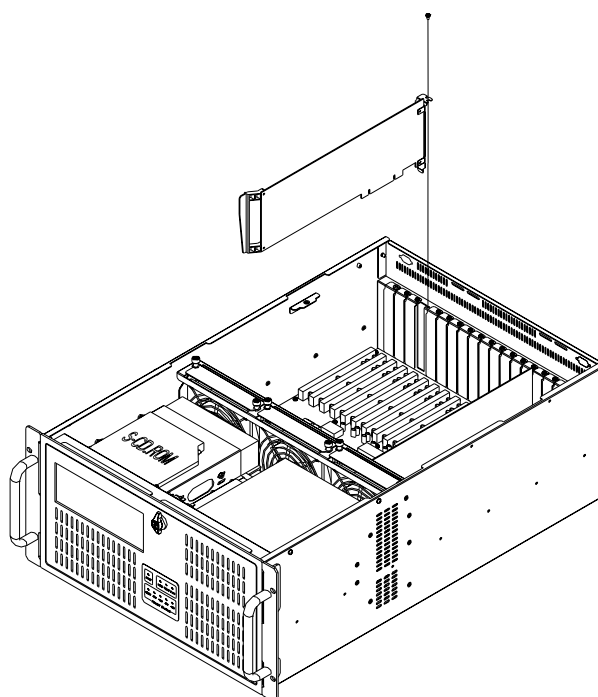

Figure 2.5: Installing a full-length card
2. Insert the CPU card (with CPU, CPU cooler, RAM, and necessary cables installed), or add-on card vertically into the proper slot (See Figure 2.5). For full-length cards, please make sure that the card bracket has been inserted properly and the other edge of the card has been inserted into the plastic guiding fillister. Fasten the card with the screw on top of the I/O bracket.